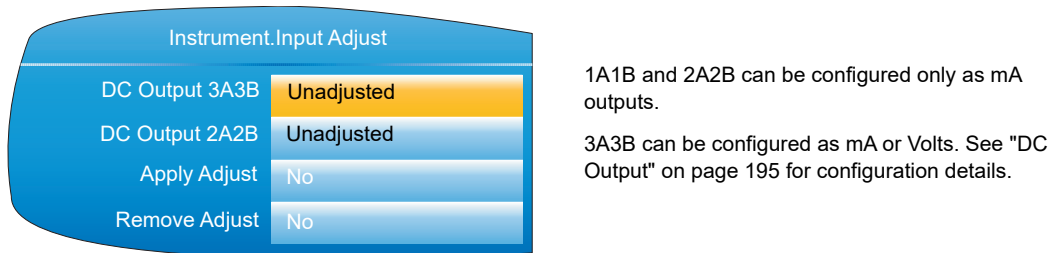
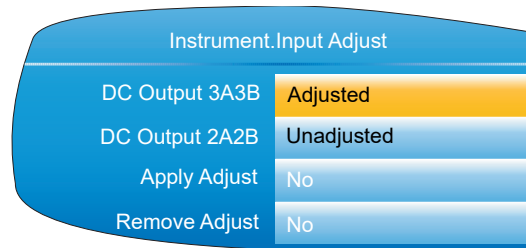

Figure 77 Output adjust initial display
Figure 79 Adjusted display
- 'Abort' cancels operations so far and returns to the output adjust initial display (Figure 77).
In the output adjust initial display (Figure 79) highlight the 'Remove Adjust' field, and operate the scroll key to enter edit mode. Use the up or down arrow key to select the required output and confirm with the scroll key. The output adjustment is removed, without confirmation. The initial display returns to 'Unadjusted' as in Figure 77.